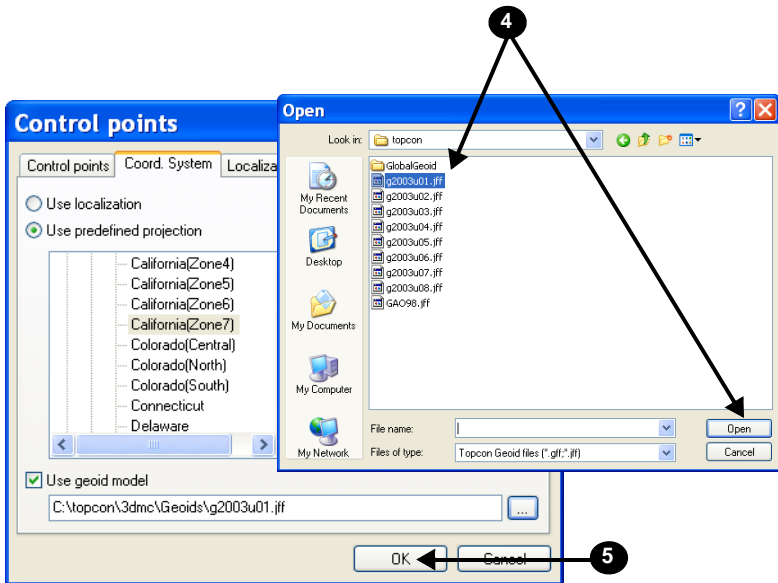

Figure 2-29. Apply Geoid File
4. Highlight the desired file and press **Open** (Figure 2-29 on page 2-25).
5. Press **OK** to save the setting(s) and apply them to the project (Figure 2-29 on page 2-25).